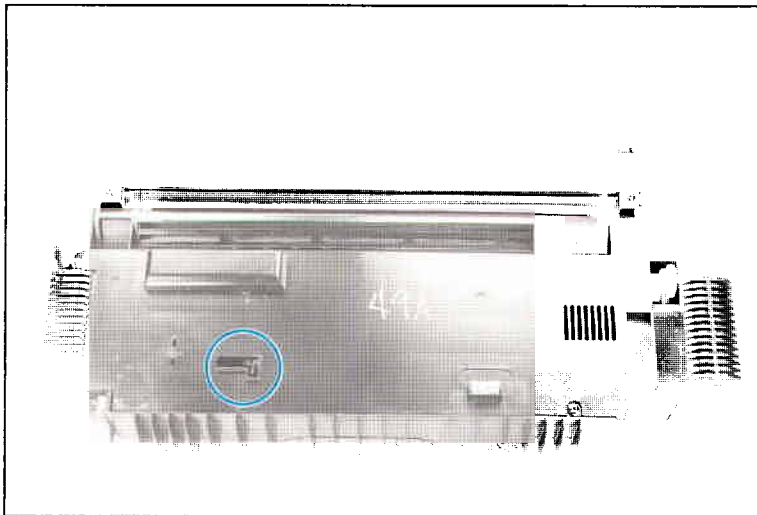

Figure 7-5 Toner Full Flag
3. Pull the Collection Box out and check that the toner full flag is free (see Figure 7-5).